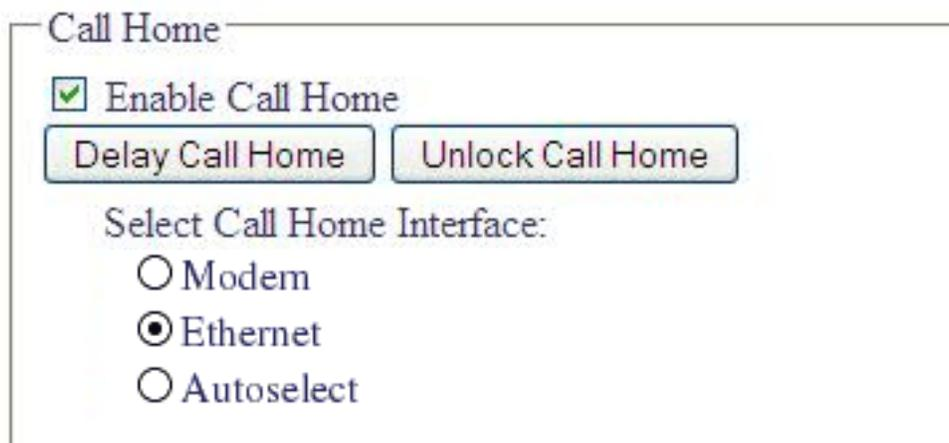

Figure 115. Unlock Call Home
- If ECC has been locked due to too many failed tries, you can clear the lock by clicking the "Unlock Call Home" button as shown in Figure 115.